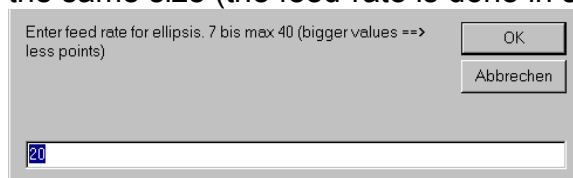

Fig.35: Figure Editor: Dialog after right mouse button-click tool ellipse.
► **Ellipse:**  This button will make it possible to draw ellipses (circles). The center of the ellipse is set with a click the left mouse button. Hold the mouse button pushed and pull the ellipse up to the desired size. The rule is: the width is dependant on the horizontal and the height on the vertical mouse movement. If you release the mouse button, the ellipse is drawn with the prior selected color. By clicking the right mouse button over the ellipse button the number of points of the ellipse can be varied. The dialog, shown in Fig.35, is opened. Only values between 7 and 40 can be entered. Smaller numbers result in more points of the figure of the same size (the feed-rate is done in smaller steps).